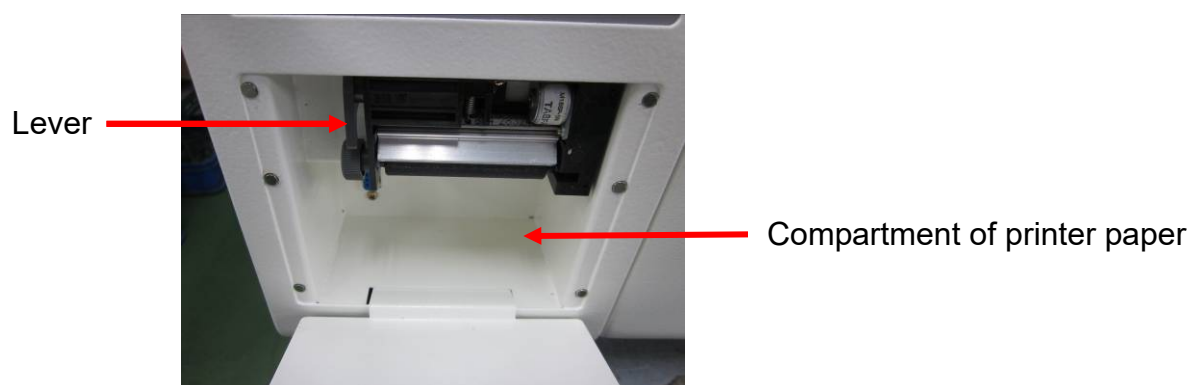

Figure 144
- C. Take out the empty roll from the compartment (See Figure 144), and replace with a new one. In order to print correctly, please load the thermal paper according to the instruction of the thermal paper for the printing side.